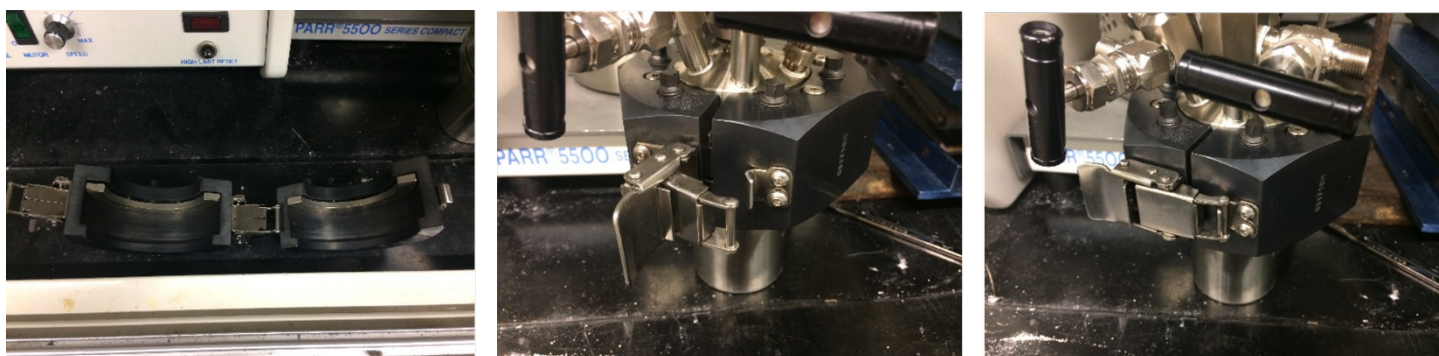

Figure 3. Utilizing the split-ring closure.
- Slide the two sections of the split-ring closure (Figure 3, left) into place and position them so that the shallow socket drilled in the outer surface of one of the ring sections is 180° from the gauge face. Raise the outer band into place around the ring sections and position the band so that the cone pointed screw enters the socket described above (Figure 3, middle); then tighten the screw lightly to hold the band in place (Figure 3, right).